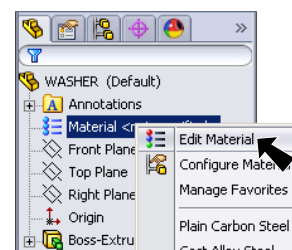

Fig. 6
Step 1. **Right click** **Material**  in the Feature Manager and click **Edit Material**, **Fig. 6**.